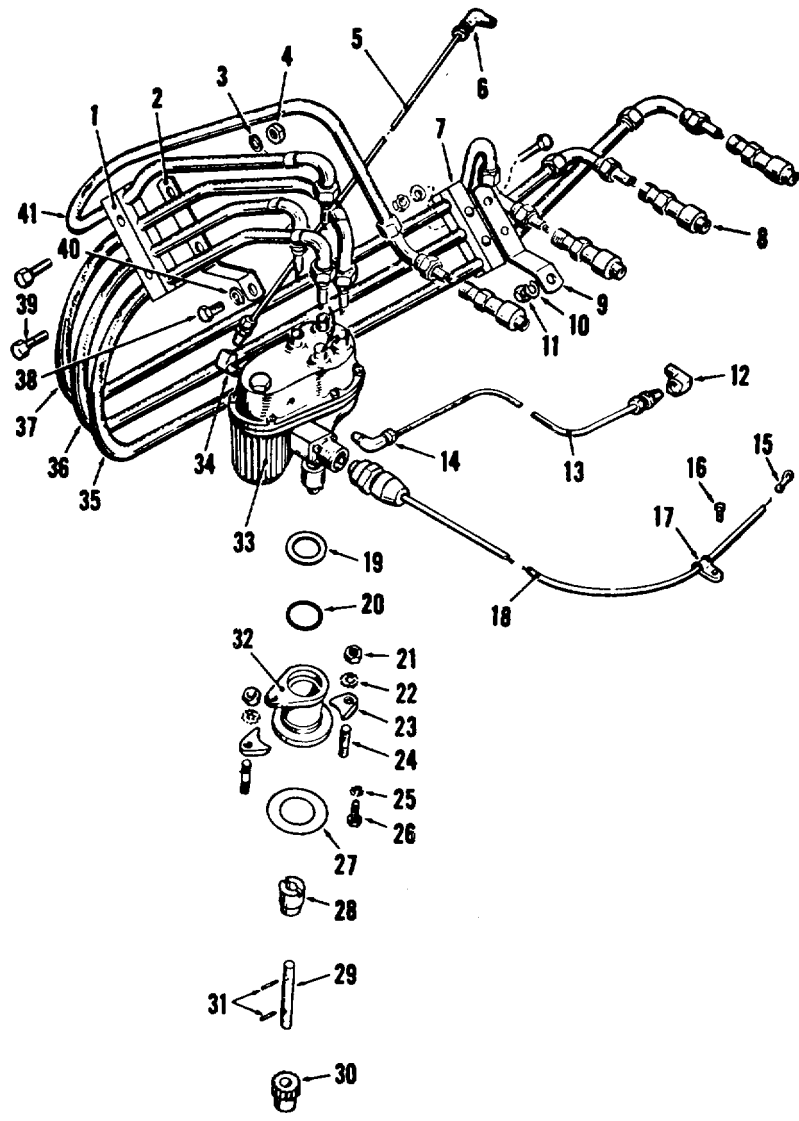

Figure 37. Exploded view of ignition group.
a. Removal (fig. 37).
- (1) Disconnect the manifold tube assembly (13) from elbow (14) and low tension plug assembly (18) from the distributor connector.
- (2) Disconnect the air cleaner tube (5) from the elbow (34) and the four ignition cables (35, 36, 37, and 41) from the distributor cap.
- (3) Scribe or chalk a line on the bottom flange of the adapter (32) and a corresponding line on the crankcase cover. This will eliminate the necessity of timing the ignition when the distributor is reinstalled.
- (4) Remove the hex nuts (21), lockwashers (22) and clamps (23) and lift the distributor (33) straight up from the crankcase cover.
b. Installation (fig. 37).
- (1) Carefully insert the drive gear end of the distributor down into the opening in the crankcase cover. Be sure the gasket (27) is in place. Aline the scribe mark on the adapter mounting flange with that on the crankcase cover, and install the clamps (23), lockwashers (22) and hex nuts (21).
- (2) Connect the four ignition cables (35, 36, 37 and 41) to the distributor cap.
- (3) Connect the air cleaner tube (5) to the elbow (34), the manifold tube assembly (13) to elbow (14), and the low tension plug assembly (18) to the distributor connector.